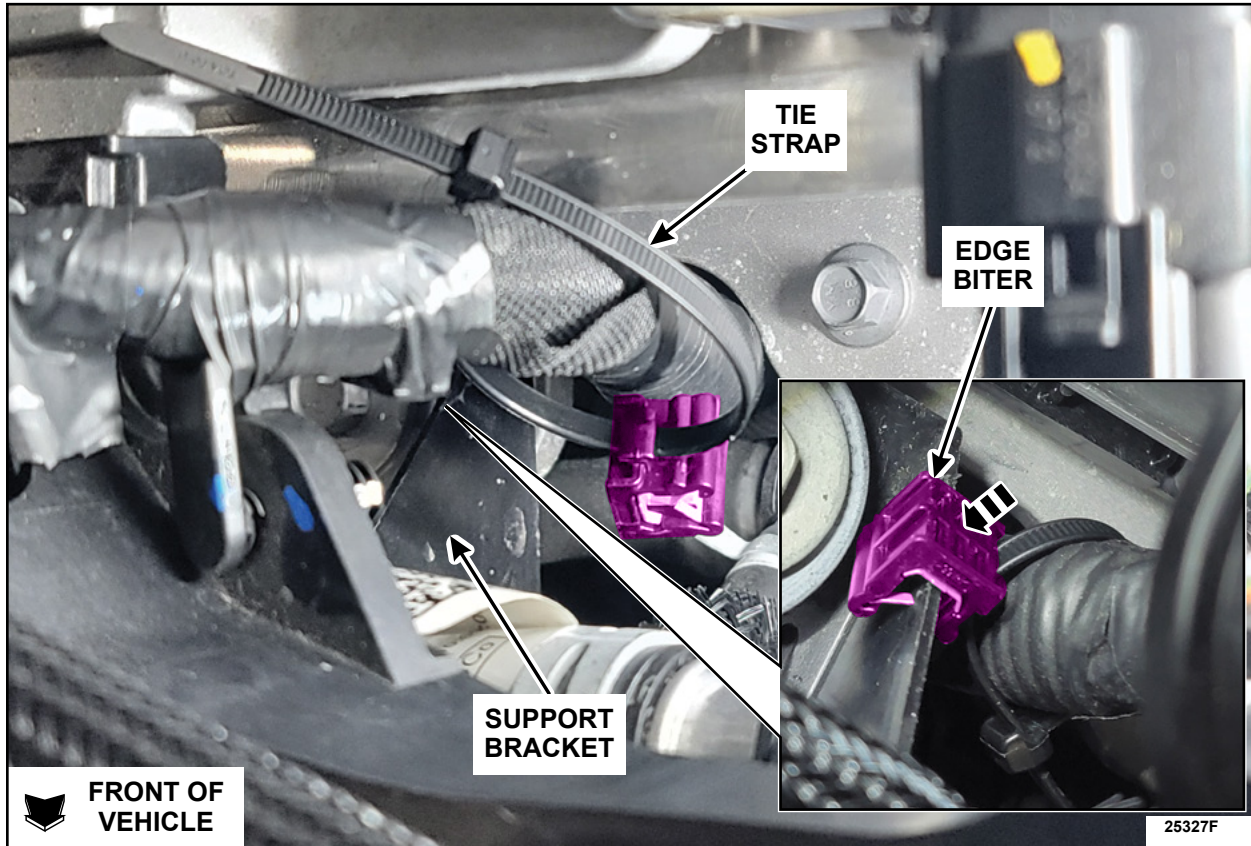

FIGURE 6
7. Install the edge biter onto the support bracket, tighten the tie strap and trim any excess. See Figure 6.